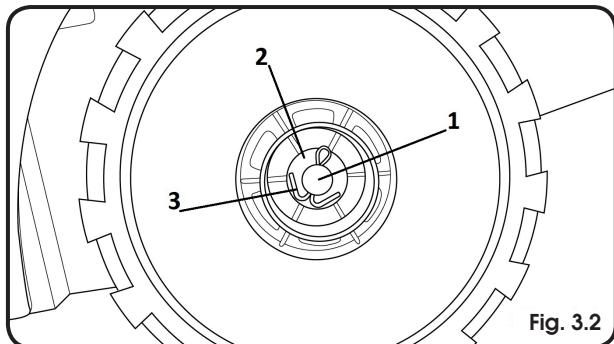

Fig. 3.2
- ✿ Put the lawnmower wheel on to the axle. Figure 3.2, point 1. Put on the washer and secure in place using the cotter pin. Figure 3.2, point 2 and 3.